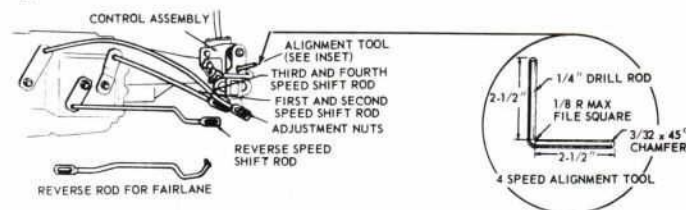

Figure 2—Control Assembly
1. Loosen the linkage adjustment nuts on the two forward speed shift rods at the control assembly as shown in Figure 2.
3. Place an alignment tool, made of 1/4-inch diameter drill rod bent to an "L" shape, through the control bracket and linkage holes until it bottoms. Figure 2 inset illustrates the alignment tool specifications.